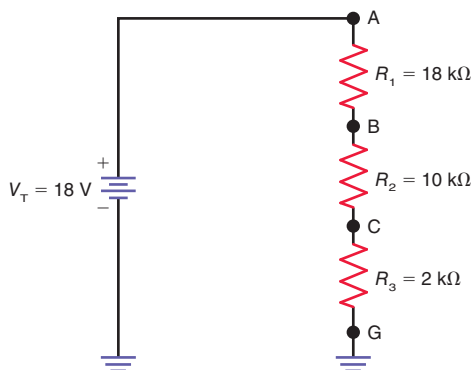

Figure 5-36
5.33 In Fig. 5-36, solve for V_{AG} , V_{BG} , and V_{CG} .